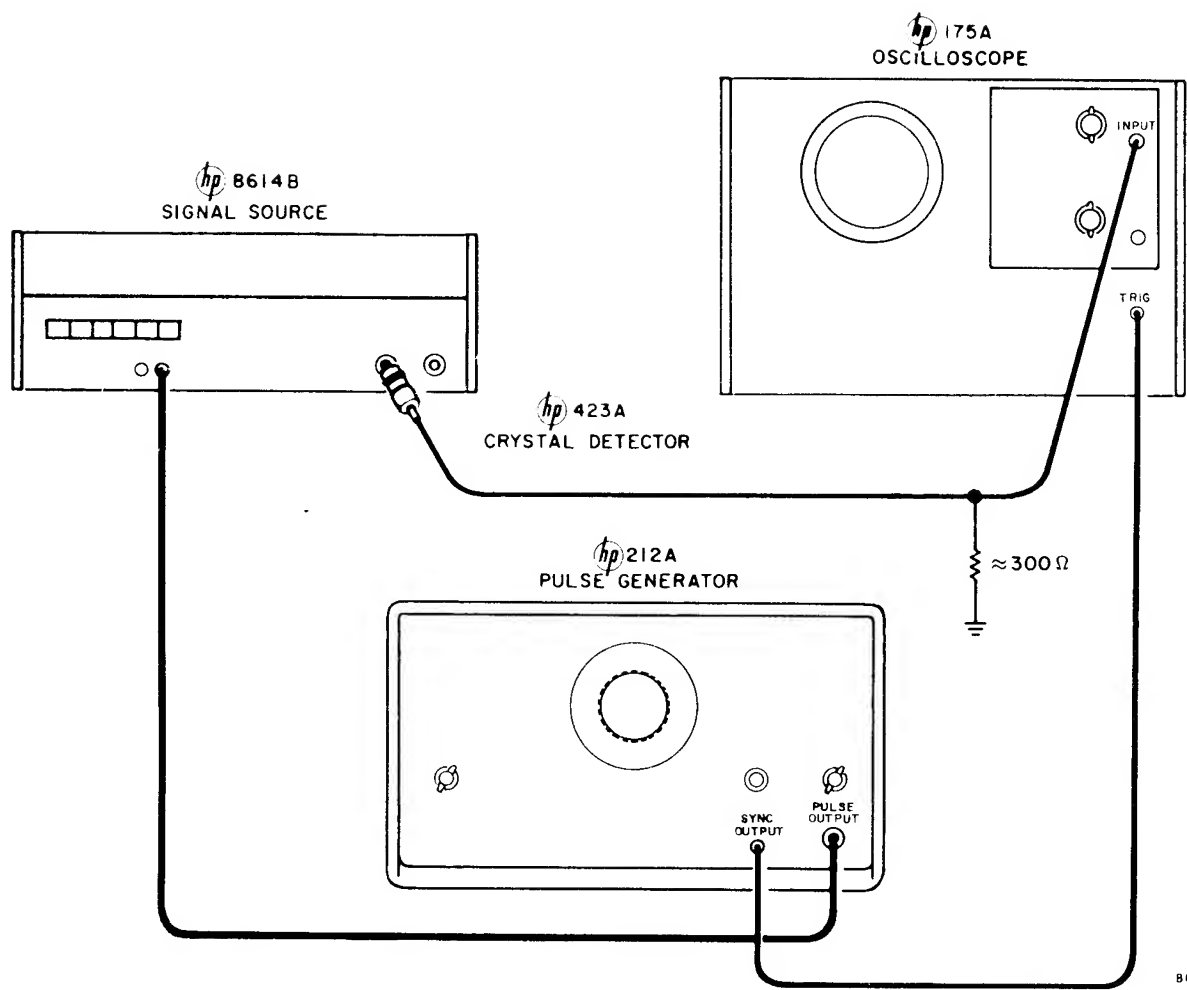

Figure 5-11. Pulse Modulation Adjust
- Connect instruments as shown in Figure 5-11.
- a. Connect instruments as shown in Figure 5-11.
e. To check external synchronization, connect equipment as shown in Figure 5-11.